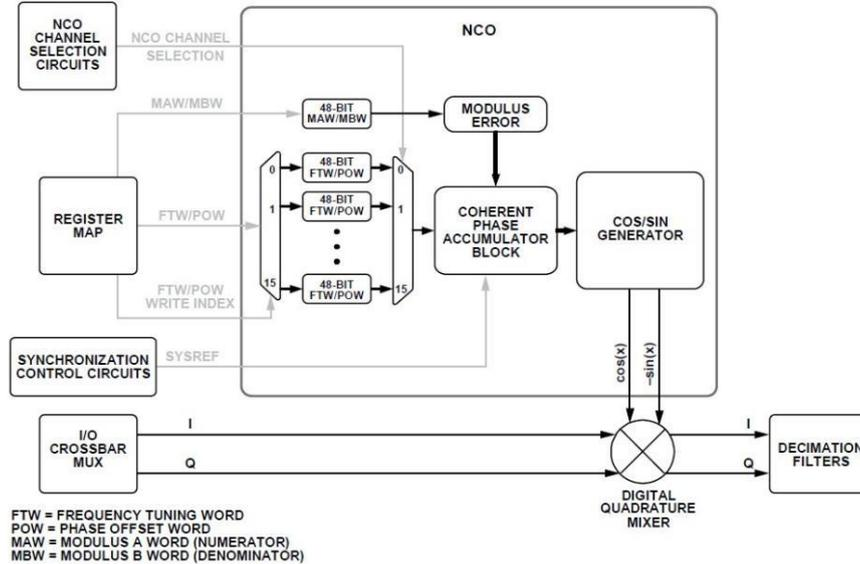

Figure 15. NCO and mixer block diagram
- 4) Figure 15 shows a block diagram of an NCO and mixer. The coherent phase accumulator contains logic that allows for an unlimited number of frequency hoppings. The gray lines in the figure represent SPI control lines.